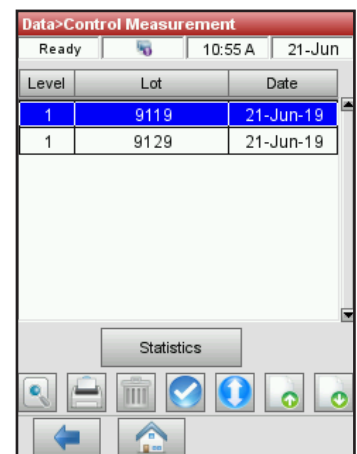

Figure 10. Data> Control Measurement screen
3. In the Data> Control Measurement screen (figure 10), select the run (located on the left side of the screen) that you want to review.
4. Tap the applicable button on the right (figure 10):